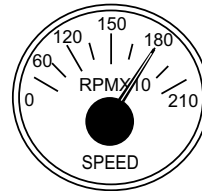

Figure 45. Engine Tachometer Gauge
9. The **tachometer gauge** (Figure 45) will indicate the speed of the engine when the generator is operating. Under normal operating conditions this speed is approximately 1800 RPM's (high speed) and 1000 RPM's (low speed)